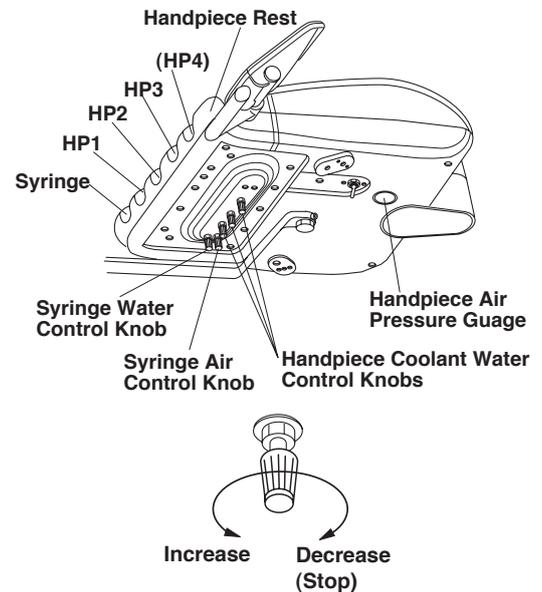

Fig.3-16 Doctor Table Section Control Knobs
(5) Doctor Table Chassis (Fig.3-16)
B. Doctor's Syringe Flow Control Knobs (Fig.3-16)
C. Handpiece Air Pressure Gauge (Fig.3-16)